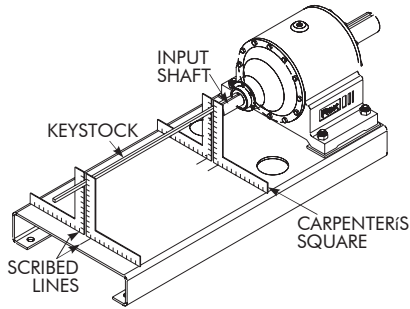

Figure 3A — Layout of Motor Mount Holes
- Clamp a piece of key stock to the keyway in the input shaft of the reducer and extend it the length of the baseplate. Reference Figure 3A (next page).
- With a carpenter's square and a scribe, measure a distance perpendicular to the key stock from both sides of the key stock and mark the baseplate. Reference Figure 3A. Make two sets of measurements; one as close to and the other as far away from the reducer input shaft as possible.